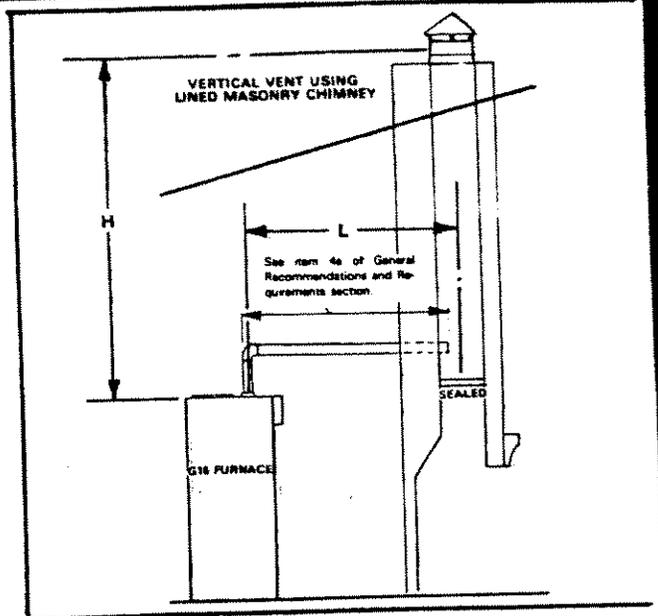

FIGURE 2
- c - All vertical vents with the exception of those outlined in section "b" should be sized in height and capacity according to the National Fuel Gas Code (ANSI-Z223.1-1984). Refer to table 2 and figure 2 for sizing type B-1, double-wall vent pipe with type B-1, double-wall vent connector and serving a single appliance. Vertical vents must be at least 5 ft. (1524 mm) higher